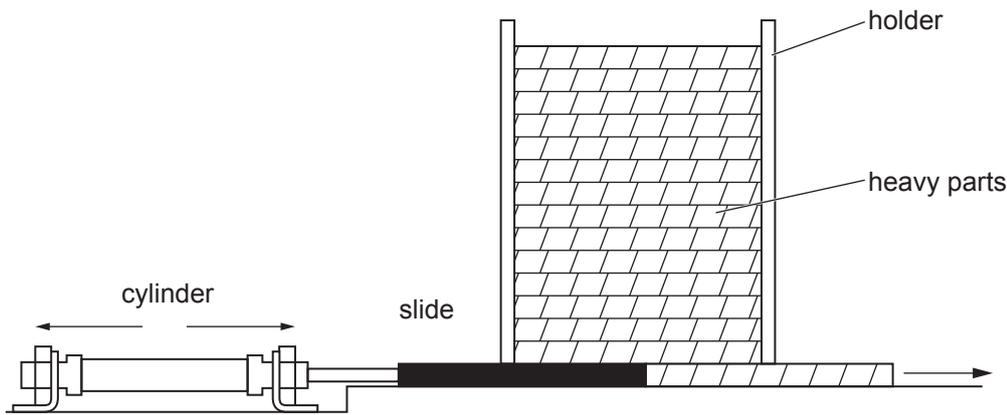

Fig. 3
- (c) Fig. 3 shows a pneumatic cylinder which is used to push heavy parts out of a holder one at a time.